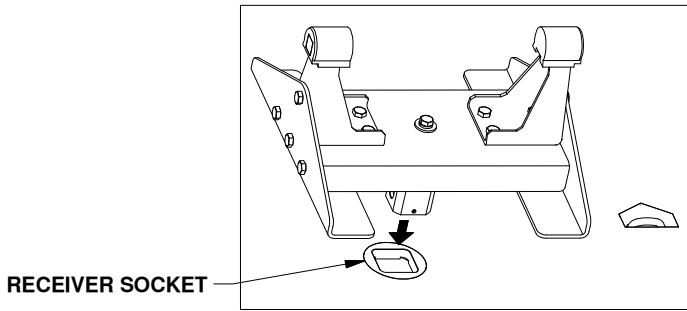

FIGURE C2: View over truck bed.
- Carefully lift and position the Companion base into the receiver hitch socket in the back of the truck bed as shown in figure C2.